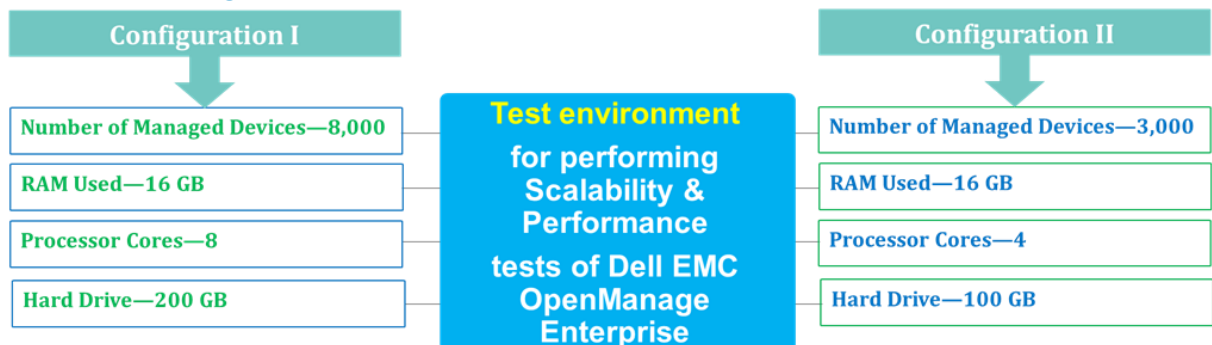

Figure 2 Configuration types used for testing scalability and performance of OpenManage Enterprise 3.0
- Minimum hardware configuration shown in Figure 2 must be used. Enhanced hardware specifications—such as increasing the processor core or RAM—will result in a better performance than described in this technical white paper.